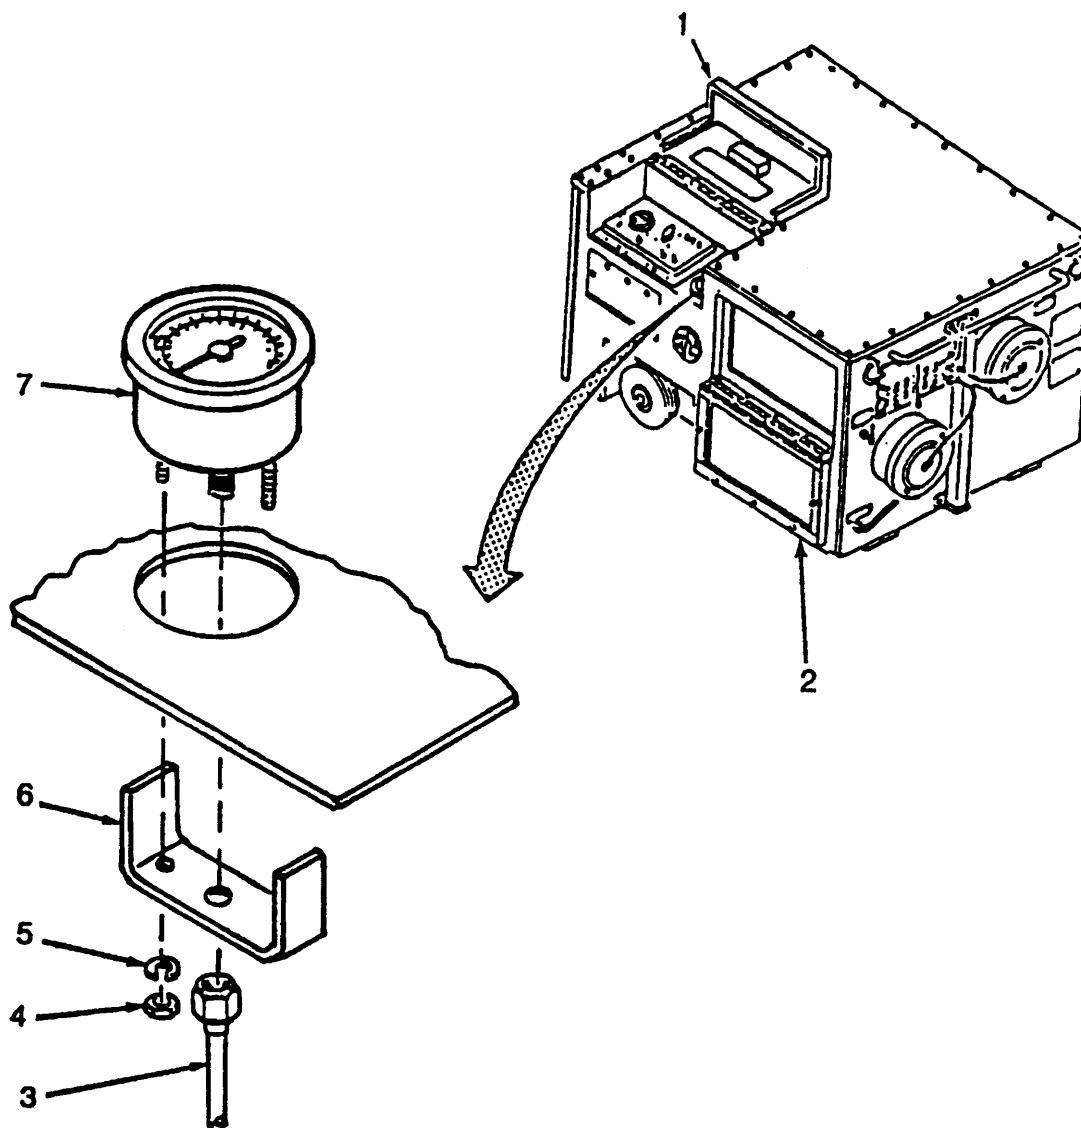

Figure 4-36. Fuel Pressure Gage
- a.                      Removal (Refer to Figure 4-36.)
- (1)      Open control panel cover (1).
- (2)      Open side, front door (2).
- (3)      Disconnect tubing (3).
- (4)      Remove two nuts (4), two lockwashers (5), bracket (6), and gage (7).
- b. Installation (Refer to Figure 4-36)
- (1) Install fuel gage (7), bracket (6), two lockwashers (5), and two nuts (4).
- (2) Install tubing (3)(Item 78, App F).
- (3) Close side front door (2).
- (4) Close control panel cover (1).